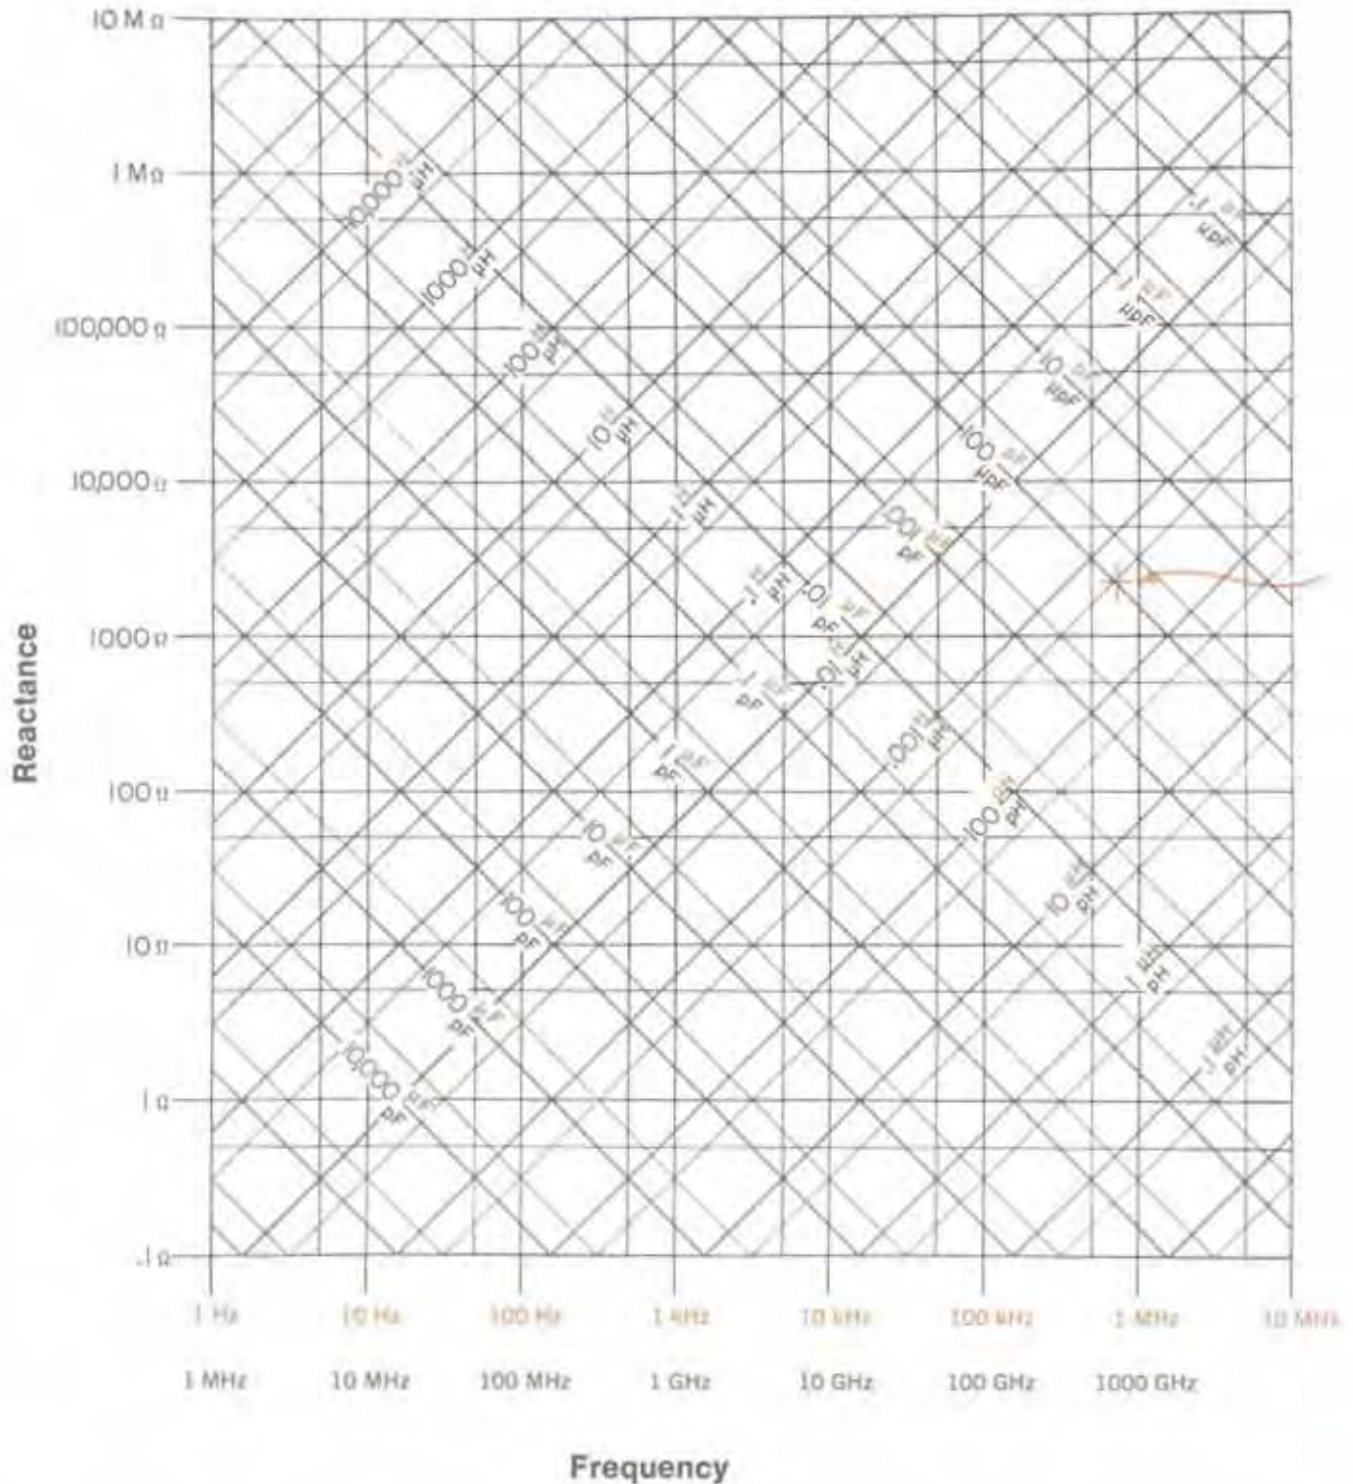
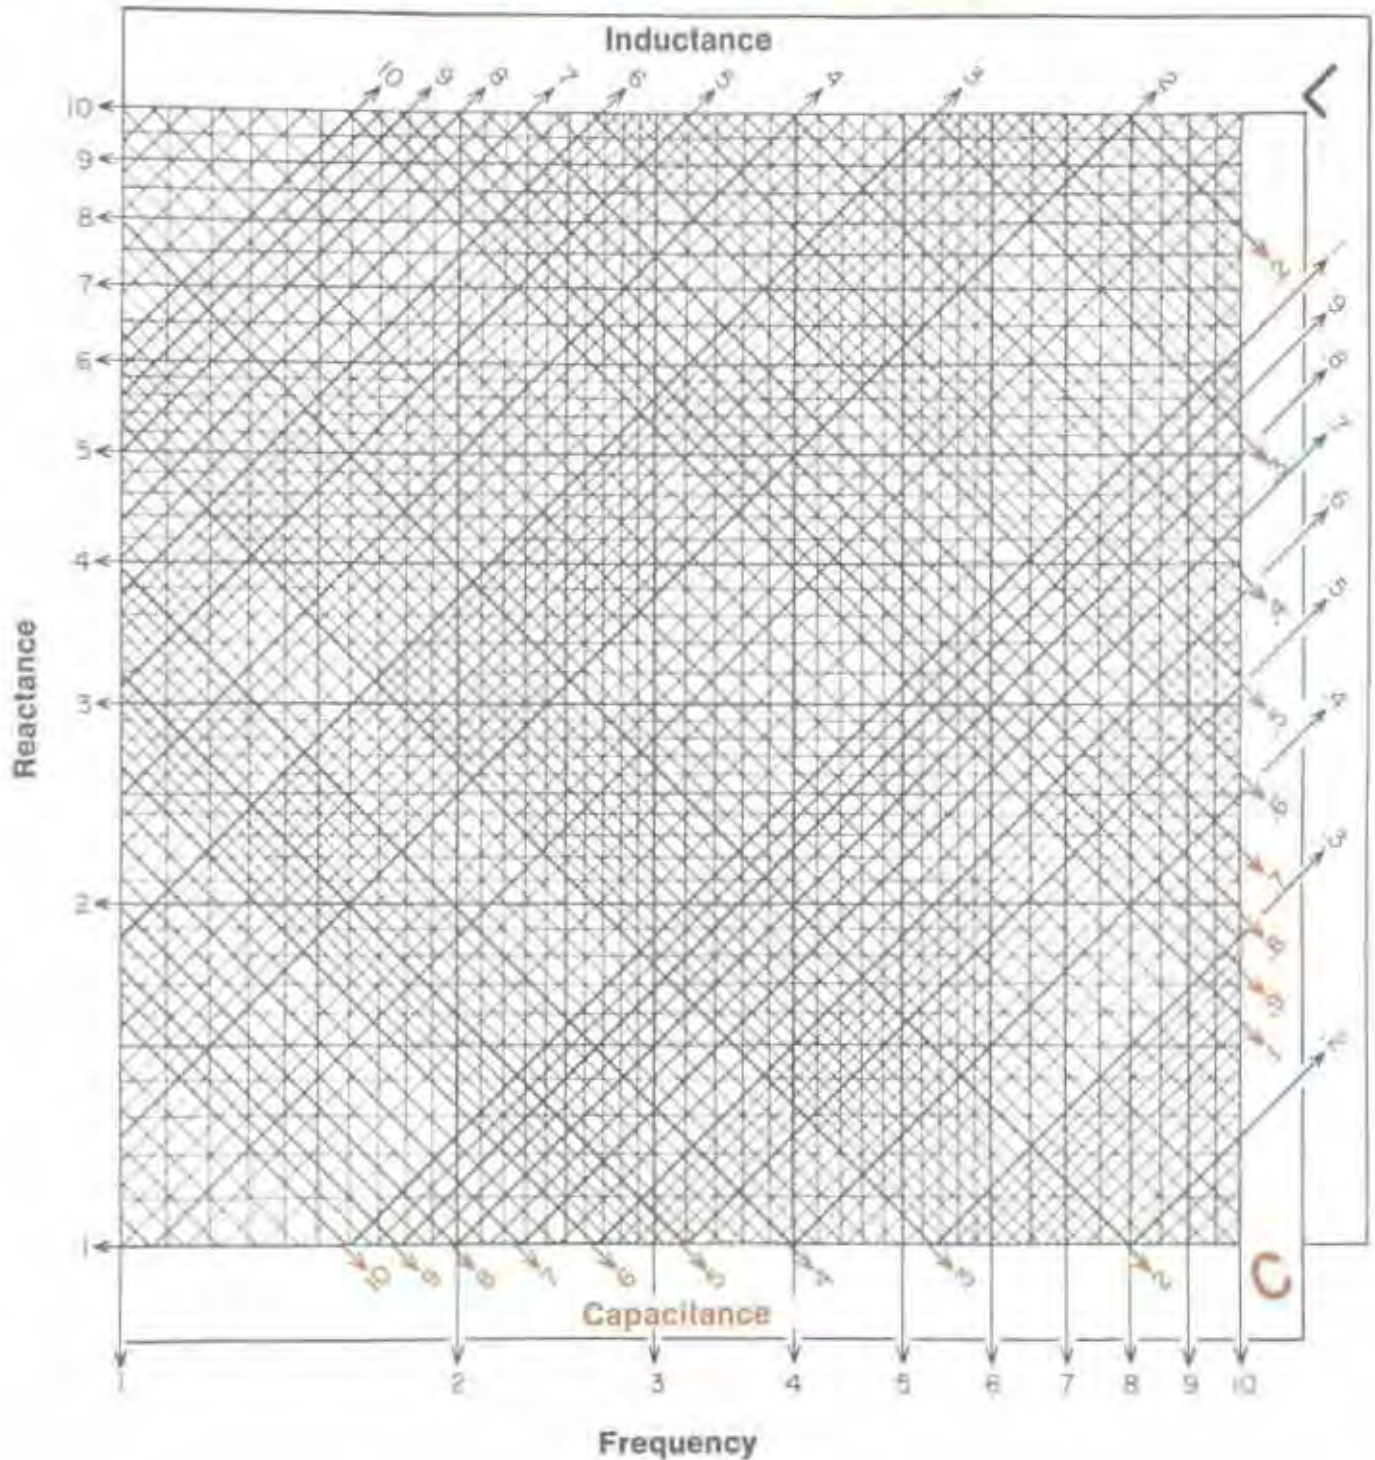

FIGURE 1
FIGURE 2
Figure 1 is the complete chart, used for rough calculations. Figure 2, which is a single decade of Figure 1 enlarged approximately 7 times, is used where two or three significant figures are to be determined.
Always obtain approximate value from Figure 1 before using Figure 2
**Example:** The point indicated in Figure 1 corresponds to a frequency of about 700 kHz and an inductance of 500  $\mu\text{H}$ , or a capacitance of 100 pF, giving in either case a reactance of about 2000 ohms. The resonant frequency of a circuit containing these values of inductance and capacitance is, of course, 700 kHz, approximately.
### Use of Figure 2
Figure 2 gives additional precision but does not place the decimal point, which must be located from a preliminary entry on Figure 1. Since the chart necessarily requires two logar-
ithmic decades for inductance and capacitance for every single decade of frequency and reactance, unless the correct decade for L and C is chosen, the calculated values of reactance and frequency will be in error by a factor of 3.16. In Figure 2, the capacitance scale is color; inductance scale is black.